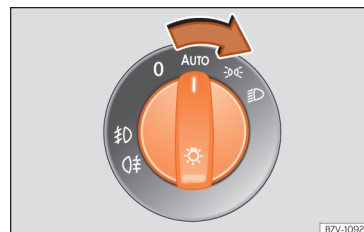

Fig. 114 Dash panel: lights control.
» Fig. 114.
- Turn on the ignition and turn the light switch to the position **AUTO** » **Fig. 114.**
- Turn the light switch to a position other than **AUTO** » **Fig. 114.**